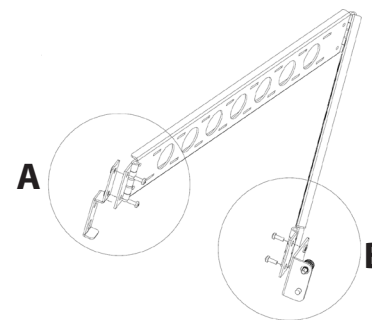

Figure 4
1. (Optional) To reverse the orientation of the **Cable Management Assembly**, detach the **Locking Bracket** (Figure 4 B) from the **Sliding Rail Assembly Rear Bracket** and remove the **Screws** that secure the **Brackets** to the **Assembly**. Flip over the **Mounting Bracket** (See Figure 4 A), and reinstall the **Screws**. Replace the **Locking Bracket** (See Figure 4 B) with the **Locking Bracket** provided.